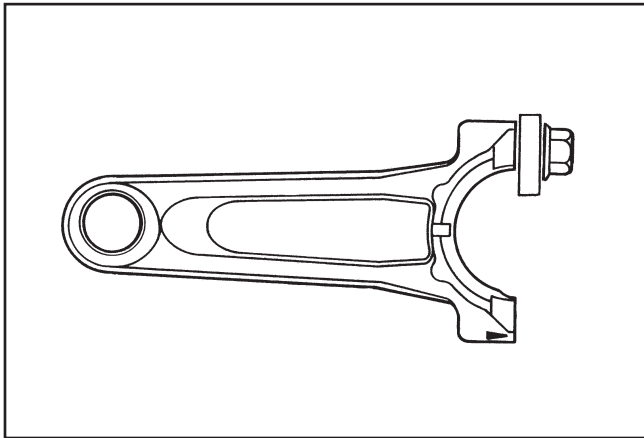

Figure 2-1. Rocker Arm/Crankshaft Tool.
4. Use a flat washer with the correct I.D. to slip on the capscrew and approximately 1 in. O.D. (Kohler Part No. **12 468 05-S**). Assemble the capscrew and washer to the joint surface of the rod, as shown in Figure 2-1.